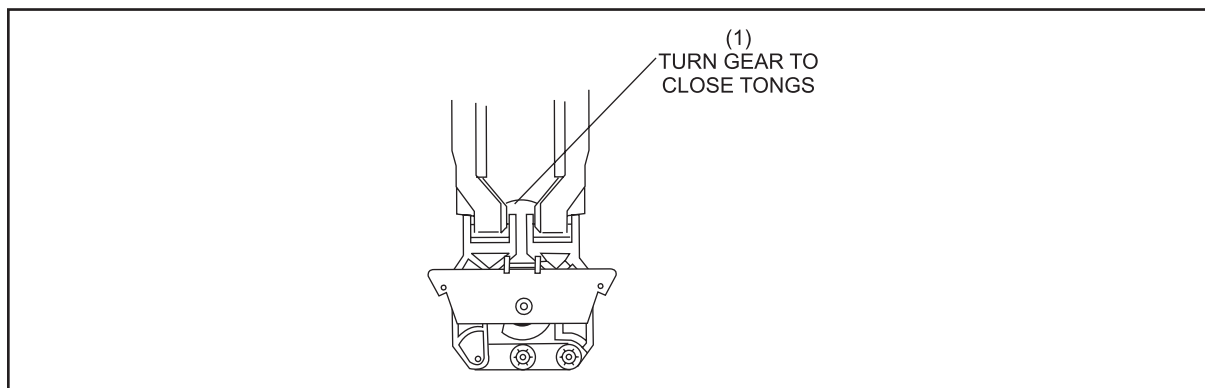

Figure 8-8. Spotting Tongs Completely Closed.
- (1) SPOTTING TONGS PIN STATIONS 1, 4, 5, AND 6 (2) SPOTTING TONGS PIN STATIONS 2, 3, 7, 8, 9, AND 10
6. Turn the gear on the bottom of the spotting tong assembly until the tongs are completely closed. Refer to *Figure 8-8*.